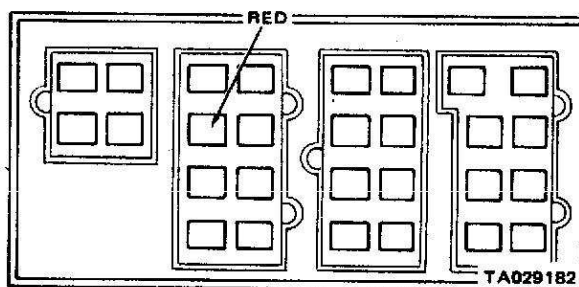

Figure 2-34. Bulkhead Connector (Red Wire).
(20) With the ignition switch ON, check for battery voltage where the red wire comes out of the bulkhead connector on the firewall (figure 2-34). Push the red test lead in from the back of the connector and connect the black lead to a good ground.